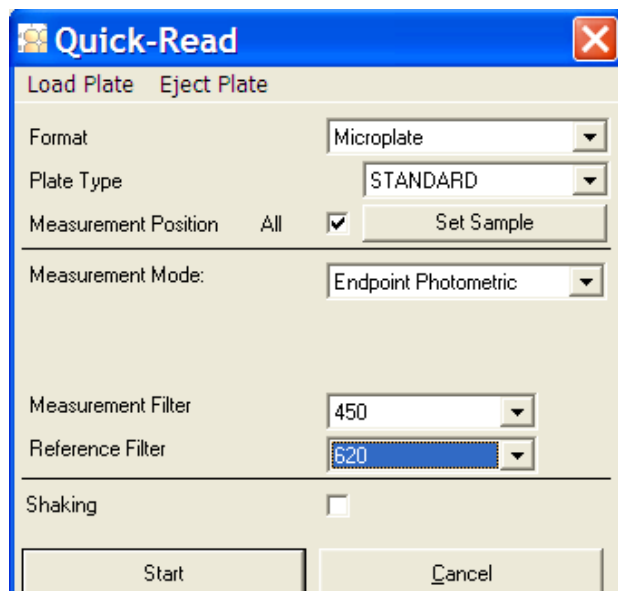

Figure 6-2: Quick Read – selecting a Measurement Filter
3. In Measurement Filter, select the desired wavelength for the measurement (**Figure 6-2**).